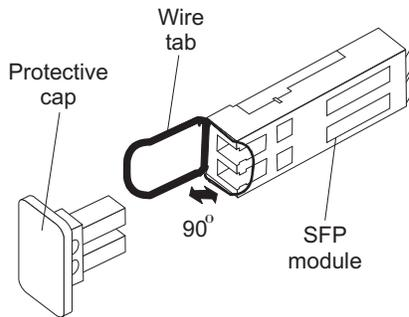

Figure 26. Unlocking the SFP module latch - wire variety
- For SFP modules that contain wire tabs, unlock the SFP module latch by pulling the wire latch outward 90°, as shown in Figure 26 on page 48.